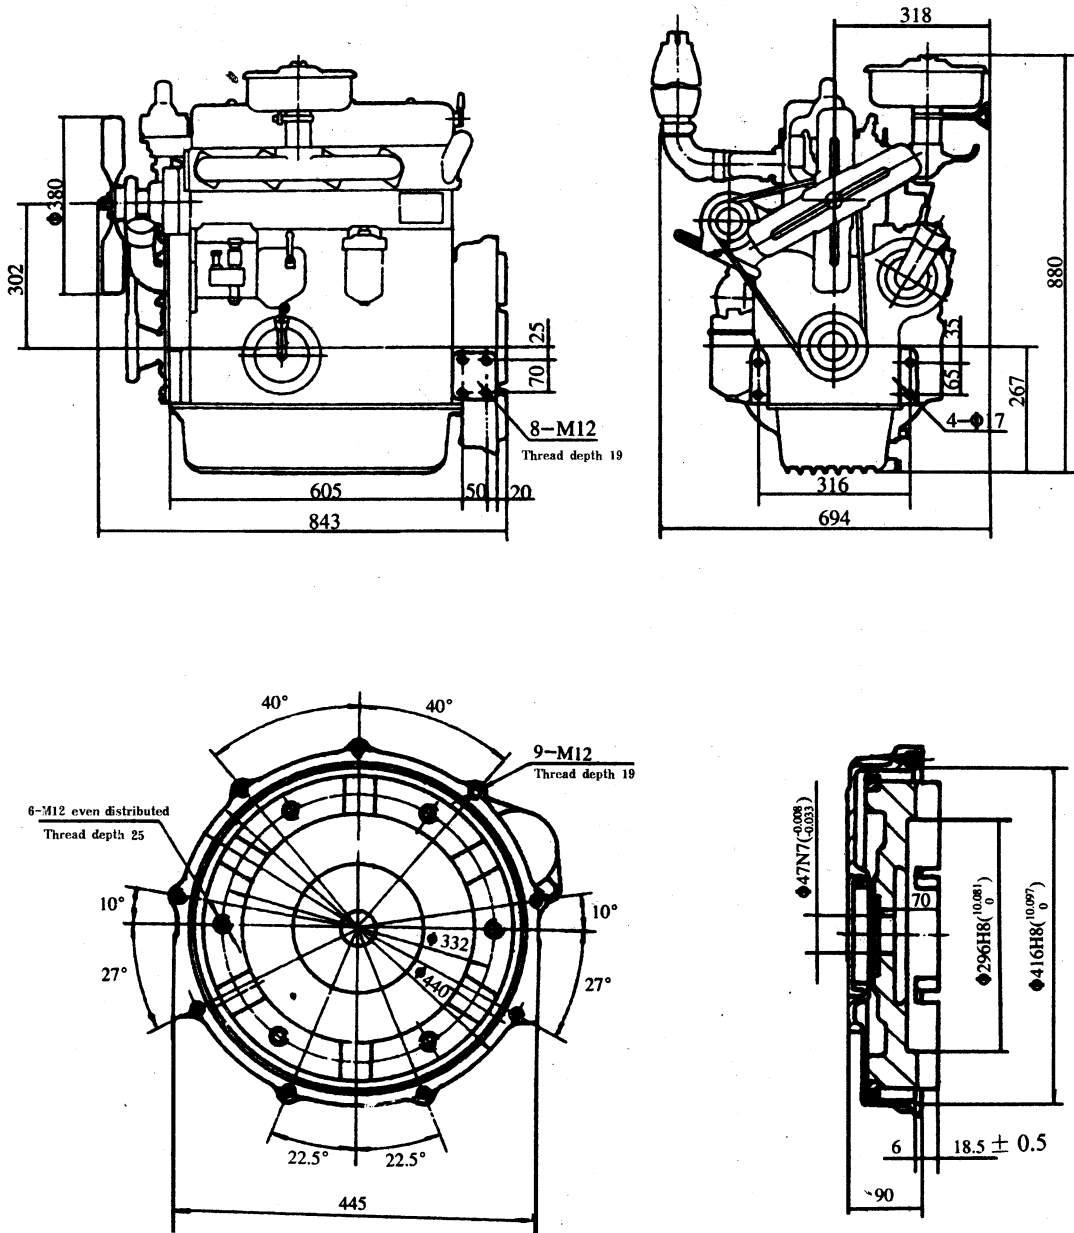

Fig. 2 Outline drawing for 495, 495G, K4100 diesel engine
* The air cleaner, exhaust manifold & oil gauge of 495G9 are the same as those of 495 (see Fig. 2)